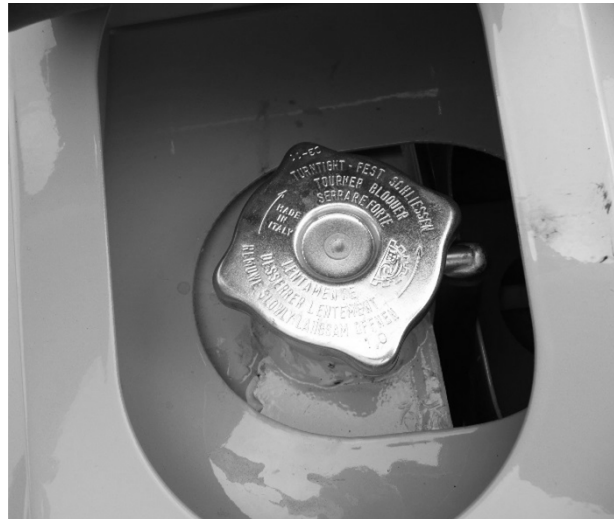

Figure 10.1-3 Checking the radiator cooling liquid
- If the motor compressor is equipped with a liquid-cooling diesel engine, check the level of the cooling liquid contained in the radiator (Figure 10.1-3).
WARNING: *the radiator plug (Figure 10.1-3) must never be removed when the engine is hot: this would cause a sudden outflow of liquid which might cause severe scalding. Topping up - if required - must be made by means of a blend of water and anti-freeze liquid, in the percentage indicated on the container of the latter.*